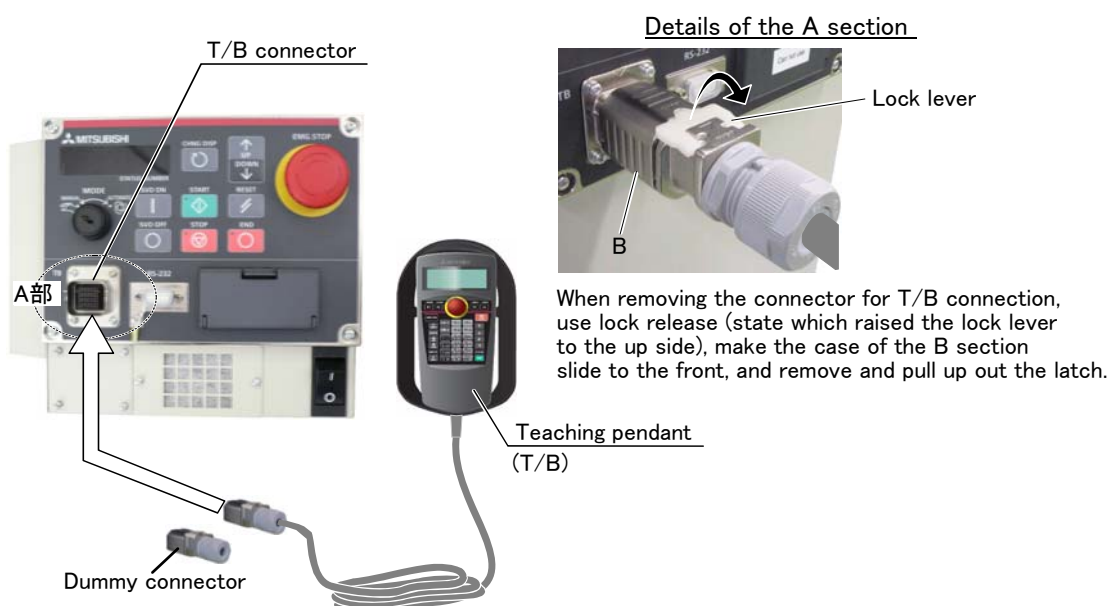

Fig.2-12 : Installing and removing the T/B
- 2) Connects T/B connector to the robot controller. Use as the upper surface the lock lever shown in Fig. 2-12, and push in until there is sound.